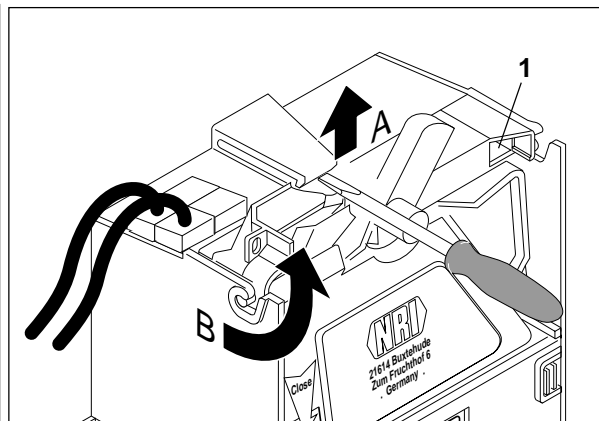

Fig. 8: Removing the coin validator
- Remove coin validator (fig. 8).